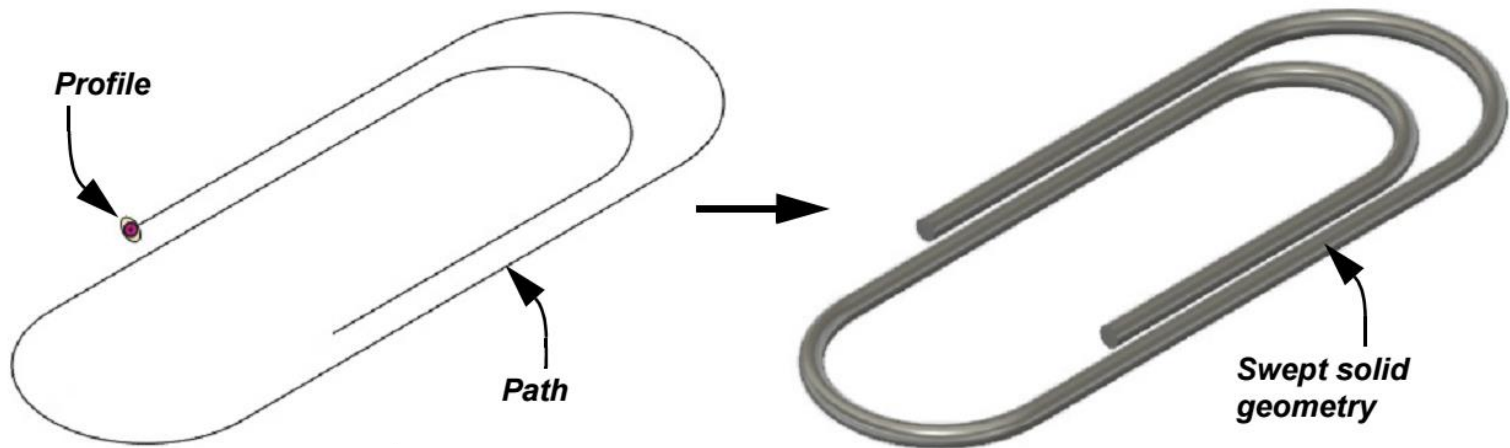

Figure 11–1
- Figure 11–1 shows an image of a paper-clip, where a circular profile was swept along a curved path. The path reference is an open path.